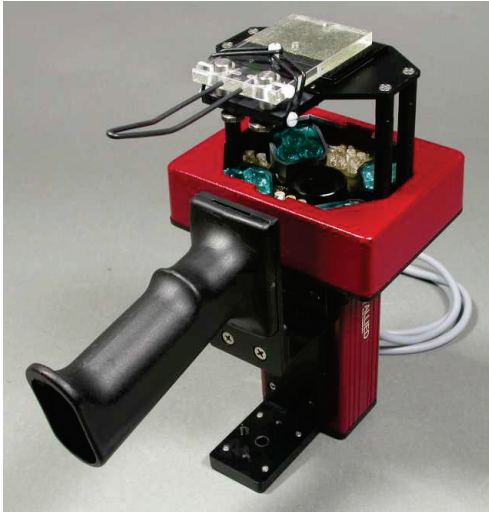

Fig. 37: Leaf clip and grip holder mounted on MINI-Head
When the Leaf Holder is ordered separately from the MINI-Head, it must be assembled and mounted by the user. Fig. 34 shows the components of the Leaf Holder. The following figures Fig. 34 - Fig. 37 on the following pages will help to put the various parts together.
For this purpose, the spare O-rings (7) are provided. The grip (8) is fixed with the two screws (9) via a metal angle to the camera, as shown in Fig. 37.